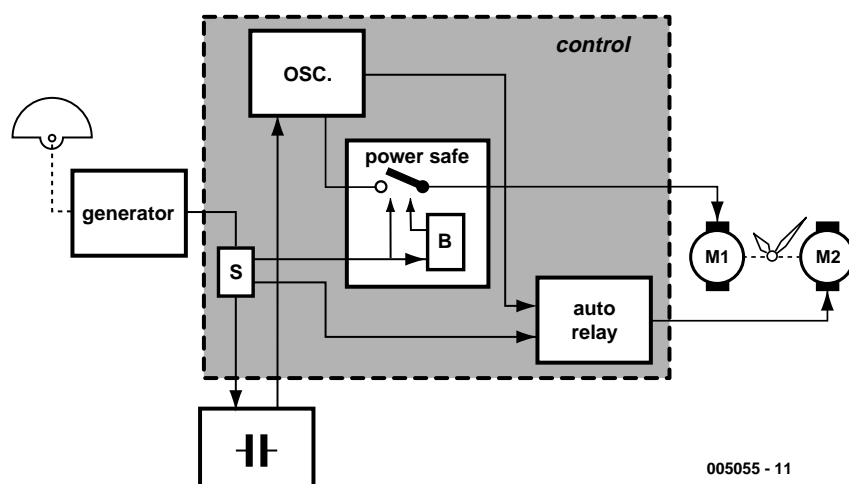

Figure 2. Simplified block diagram of the 'kinetic auto-relay' system.
Figure 2 shows a simplified block diagram of the auto-relay system. The generator (plus the rotating weight), the quartz crystal oscillator, the capacitor or battery used to store the energy and the stepper motor (M1) are all elements that are used in the 'standard' kinetic system. The new elements are the sensor (S), the buffer (B), a second stepper motor (M2) and the 'power safe' and 'auto relay' blocks.